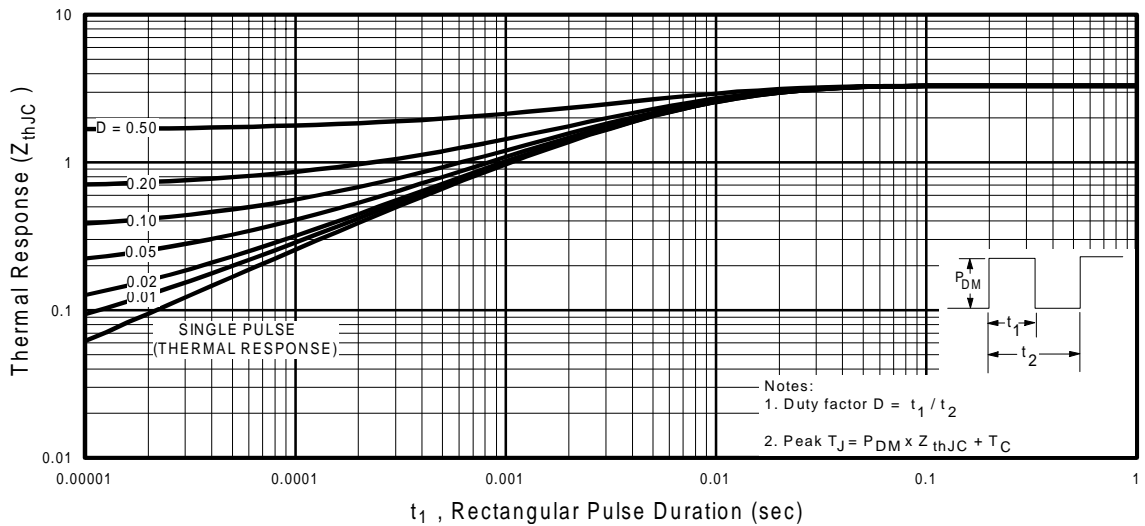

Fig 11. Maximum Effective Transient Thermal Impedance, Junction-to-Case
- ① Repetitive rating; pulse width limited by max. junction temperature. (See fig. 11)
- ② $V_{DD} = 25V$, starting $T_J = 25^\circ\text{C}$, $L = 1.0\text{mH}$